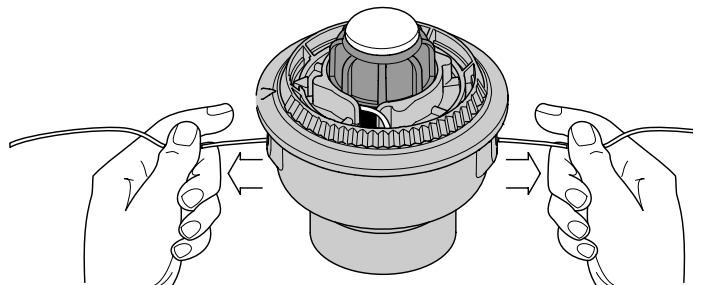

Fig. 23
9. If winding the line becomes difficult or if the line jams, pull the ends of the line from the spool (Fig. 23). Continue winding the inner reel counterclockwise.
4. Hold the inner reel in place and install the bump knob, spring and foam seal. Press down and turn the bump knob clockwise. Grasp the ends and pull firmly to release the line from the holding slots in the inner reel (Fig. 23).
If the SpeedSpool® does not release line correctly, pull the ends of the line firmly from the spool (Fig. 23). If this does not release the line, follow the *Cleaning the SpeedSpool®* instructions.